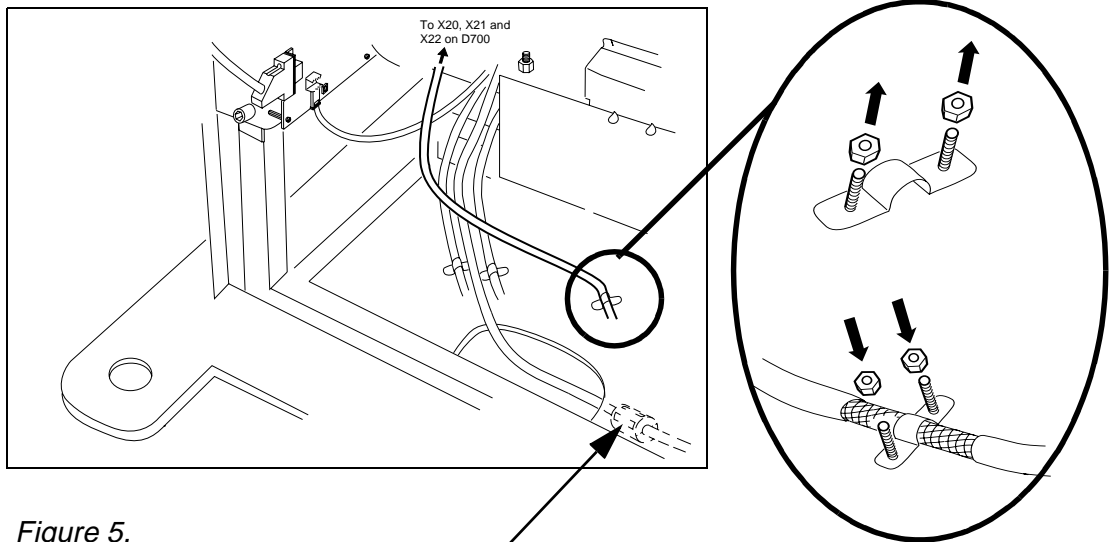

Figure 5.
- Clamp the cable to the generator floor or below the D700 p.c. board, see Figure 5.